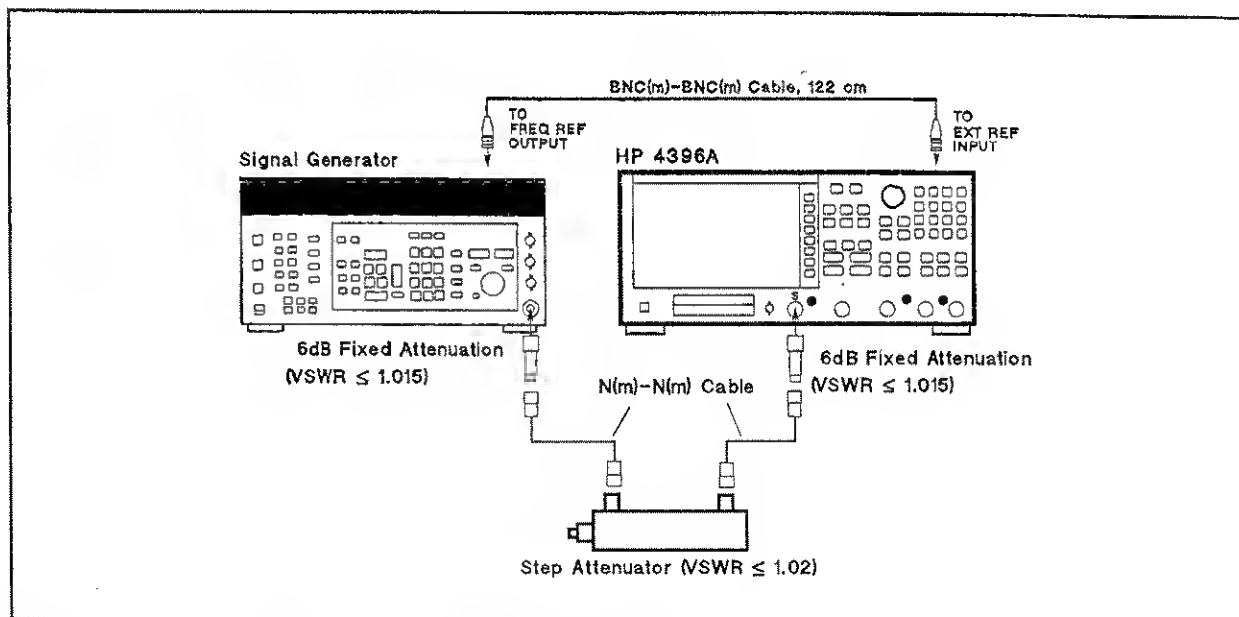

Figure 2-21. Input Attenuator Accuracy Test Setup
4. Connect the test equipment as shown in Figure 2-21.
Connect the signal generator's 10 MHz frequency reference output to the HP 4396A EXT REF Input on the rear panel as shown in Figure 2-21. With this configuration, both the signal generator and the HP 4396A are phase locked to the same reference frequency to obtain a stable measurement.